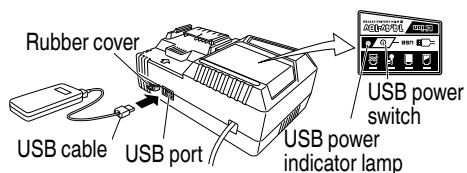

Fig. 14
- (2) Turn the USB power switch ON (Fig. 14)
- (3) Connect the USB cable. (Fig. 14)
- (4) When charging is completed
- Turn the USB power switch OFF and unplug the power cord from the electrical outlet. (Fig. 14)